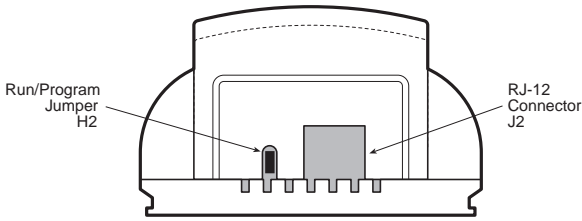

Figure 2-2. Run/Program Jumper Location
3. Ensure that the Run/Program jumper (H2) shown in Figure 2-2 is installed.